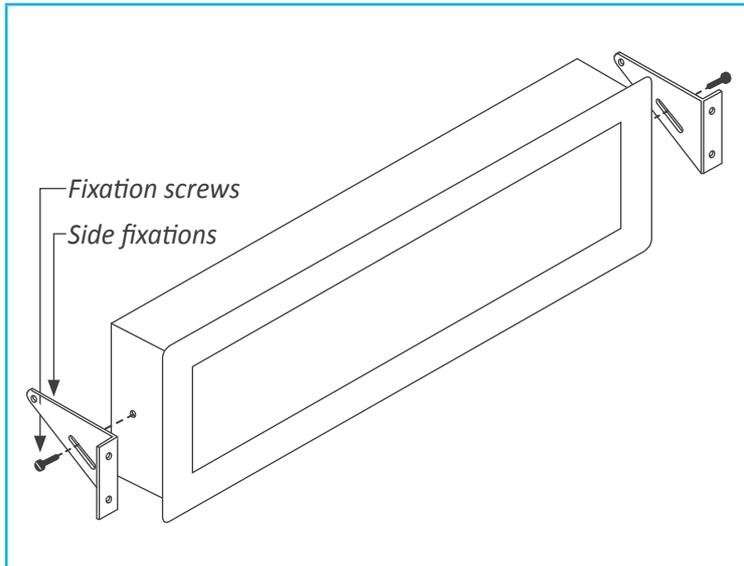

Figure 8 - Panel mount
- Panel mount. Apply the cut-out to the panel as seen on section 1.8. Remove the side fixations. Introduce the instrument into the panel cut-out. Mount the side fixations as shown (see Figure 8). Slightly loosen the fixation screw of one side and press the instrument against the panel. Tighten the fixation screw so it presses the panel and maintains the fixation. Repeat with the opposite side fixation. For IP65 protection at the panel junction, see the IPB accessories at section 3.